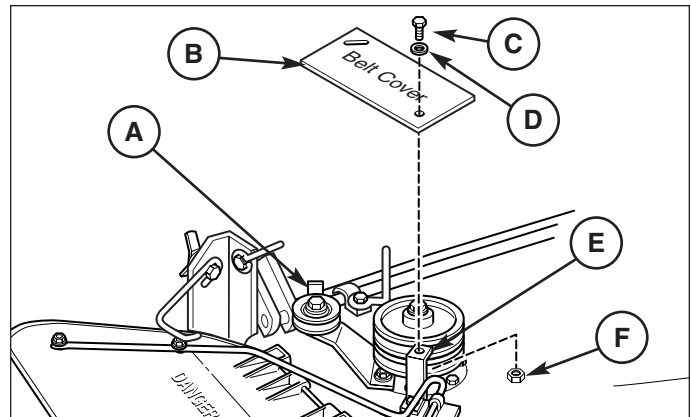

Figure 14. Install Belt Cover Plate
1. Attach the belt cover plate (B, Figure 14) to the support bracket (E) using a 5/16-18 x 1 capscrew (C), washer (D) and nylock nut (F).
2. Rotate the belt cover until the notch catches the idler assembly belt cover latch (A, Figure 14). Cover latch (A) may need to be rotated for proper alignment.